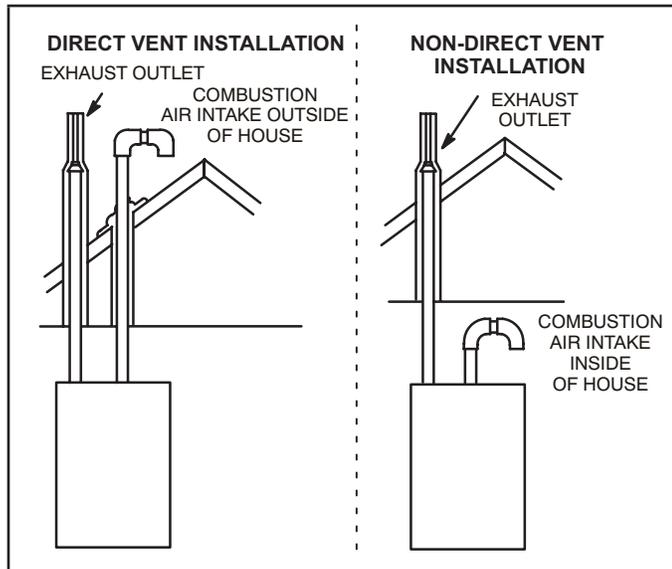

Figure 1
**NOTE** - In Direct Vent installations, combustion air is taken from outdoors and flue gases are discharged outdoors. In Non-Direct Vent installations, combustion air is taken from indoors or ventilated attic or crawlspace and flue gases are discharged outdoors. See figures 1 and 2 for applications involving roof termination.